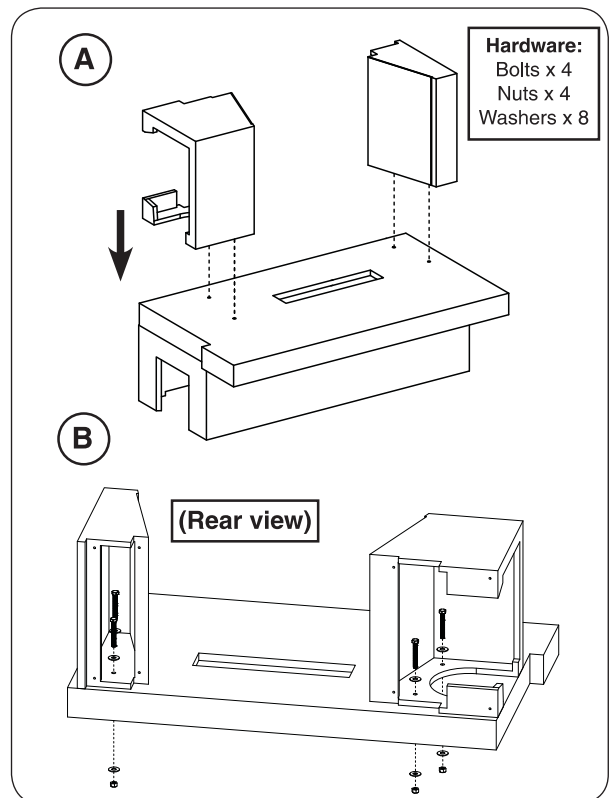

Fig. 15-3 Install left & right firebox pieces
3. Place the left and right firebox pieces onto the shelf as shown in Fig. 15-3, A.
4. Insert the hardware kits in the order shown in Fig. 15-3, B. Hand tighten, then use two $\frac{3}{4}$ " open end wrenches (or equivalent) to fasten.